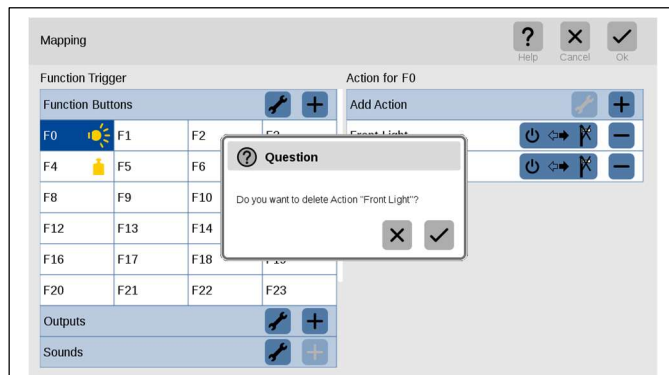
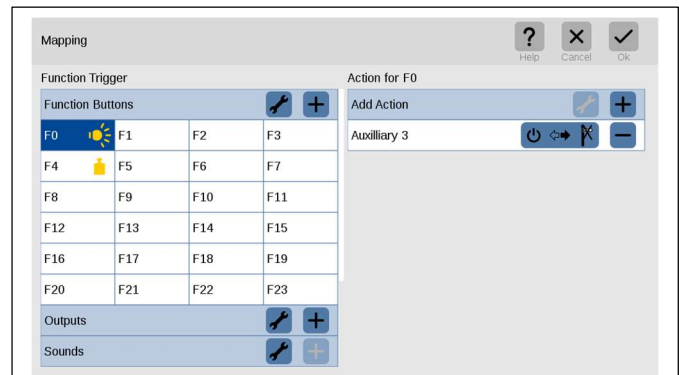
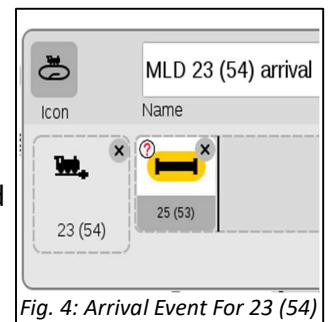

Fig. 6 – Deleting “Front Light” function
Fig. 7 – Only Aux. 3 remaining
Fig. 4: Arrival Event For 23 (54)
In the function mapping for F0, you can see that this button activates the “Front Light” and “Aux 3”. I want to split these two outputs up. I tap on the minus (-) of the “Front light” on the right (Fig 6). This will remove the Mars Light from that function button (F0) and leave Auxiliary 3 as the headlight (Fig 7).
My initial event process for the MLD is to identify when both lines of the station are occupied. The two triggers (occupation sensors) are 23(54) and 25(53) and both need to be occupied before their identical events can take place. The conditional programming is displayed in Fig. 4. When the event is triggered, it checks the opposing line to see if that line is already occupied with a waiting train.
To nest this event, I simply put it within the two event triggers discussed in the prior section MLD 25 & MLD 23. Fig. 6 displays the changes to the events, compared with that shown in Fig. 4.
The layout does display a shortcoming in the lack of block sensors where the trains have exited the mid-line depot. I will have to add a step to reset the signals to 'stop' mode. Since I was not sure how long the contact area is in the Depot, I will include a delay to allow enough time for the station to clear. Fig. 7 shows the Departure event added for the contact '25 (53)'. I have added a similar action to the companion contact '23 (54)', only the delay time has a different value.